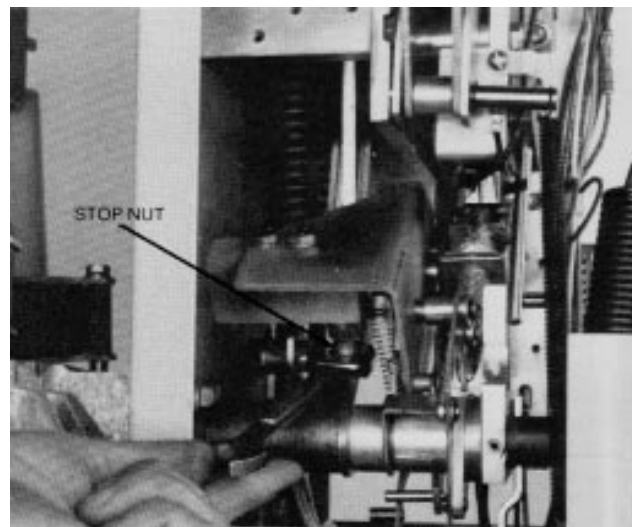
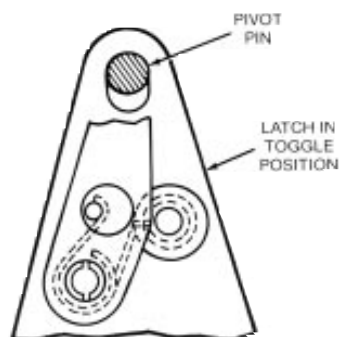

Figure 17.
Figure 18.
- A. To prevent this bottoming, set the stop bolt inside the operating housing (Figure 17) so that the slotted side plates of the latch assembly at the upper pivot bear snugly against the pivot pin when the latch is in the toggle position as shown in Figure 18.
- (1) Check this by manually winding the actuator mechanism.